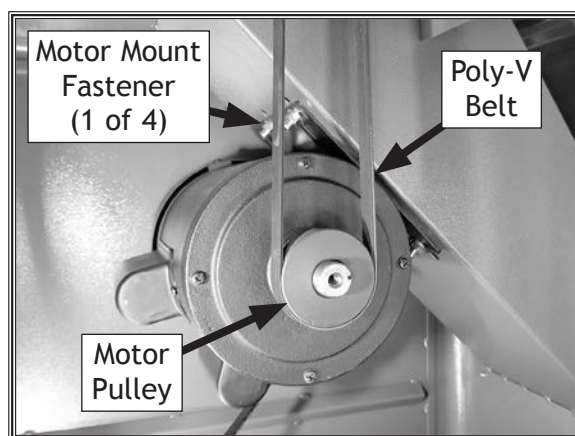

Figure 14. V-belt installed.
9. Loosen motor mount fasteners shown in Figure 14. DO NOT completely remove fasteners.
10. Slide motor upward, place poly-V belt around cutterhead pulley and motor pulley, then slide motor down to rest on belt (see Figure 14).
15. Tighten motor mount fasteners (see **Figure 14** on **Page 20**).